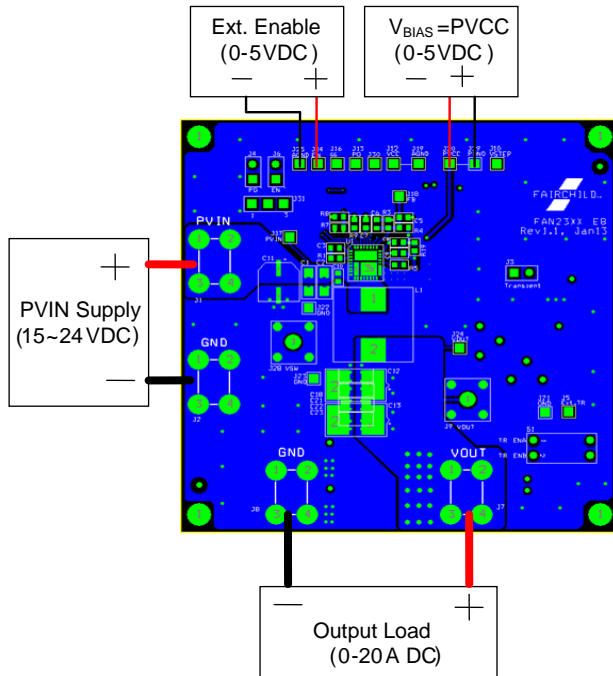
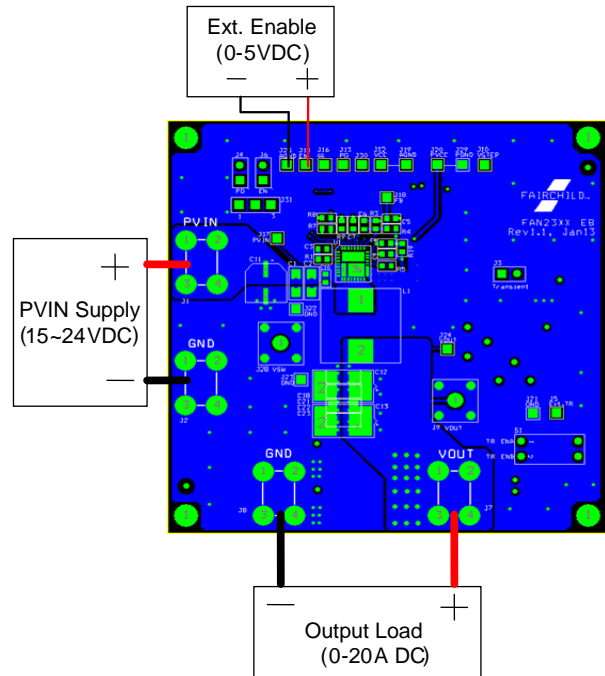

Figure 3. Test Setup for Non-SV Application (V_{BIAS} Required)
Figure 4. Test Setup for SV (Single Voltage) Applications
- Adjust V_{IN} power supply, PVCC bias supply, and external EN supply to 0 V; connect as shown in Figure 3 (non-SV part) or Figure 4 (SV part).
The FAN23XX evaluation board can be enabled using an external-enable-logic signal, as shown in Figure 3 and Figure 4. By default, R8 is populated with 1 M Ω to hold EN LOW. For non-SV parts, an auto-enable function can be implemented by placing a shorting jumper in location J6 to enable the part when PVCC is applied.
- Set up equipment and board as shown in Figure 3 or Figure 4.